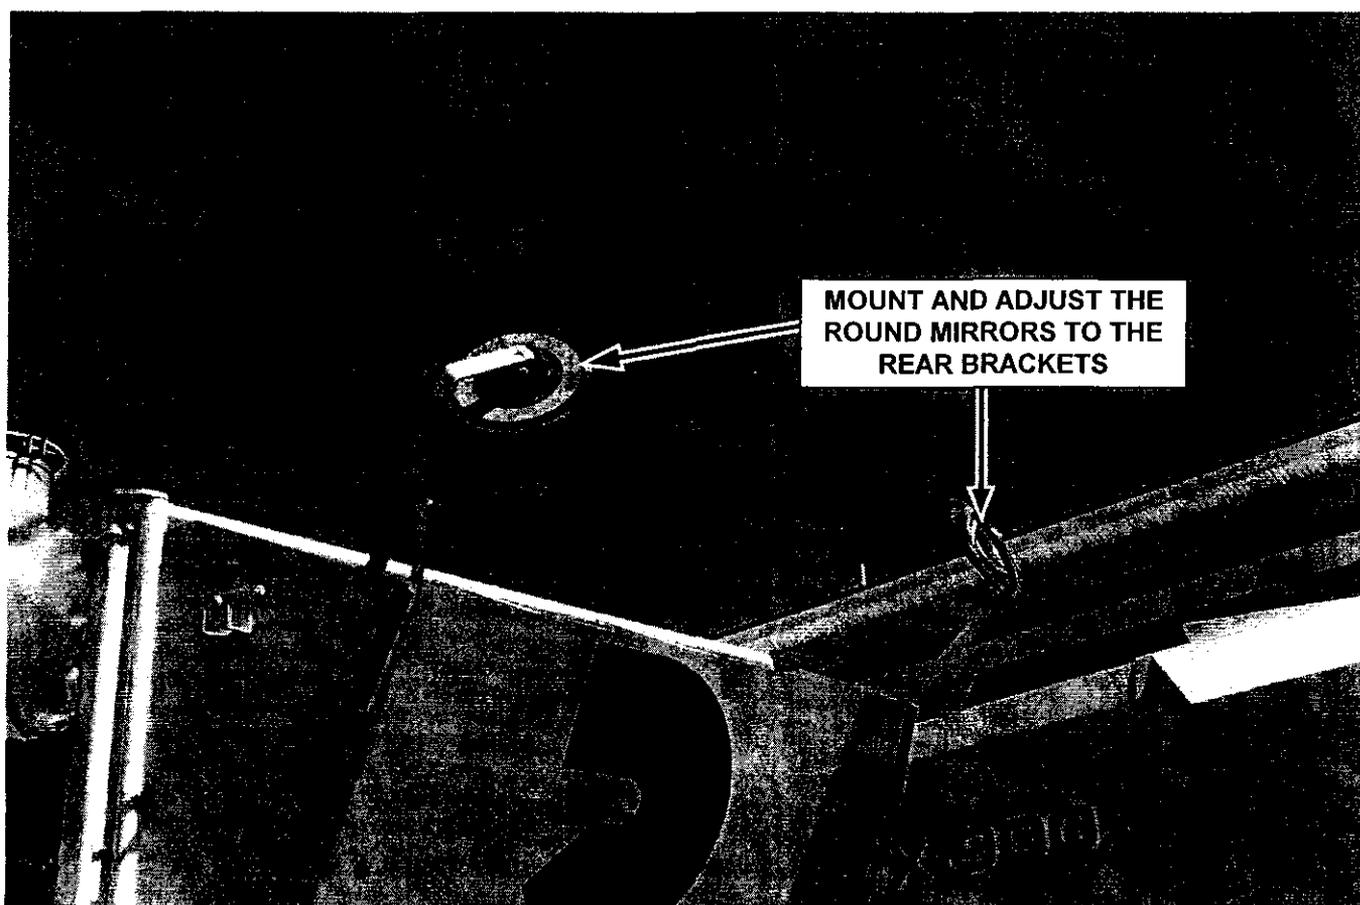

FIGURE 2
3. Mount the round mirrors to the rear mounting brackets using the supplied hardware (figure 2).